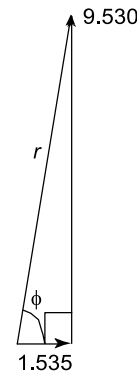

Figure 5.27
- The components are shown sketched in Figure 5.27.